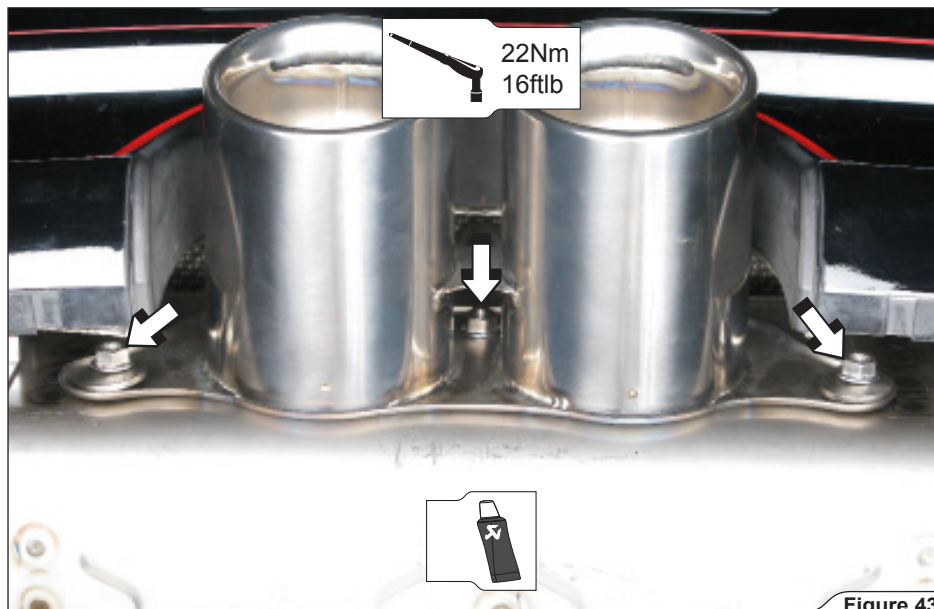

Figure 43
25. **For Slip-On, Sports Cup, Evolution and Evolution-Race:** position the Akrapović tail pipe piece onto the muffler; correctly assemble and hand tighten the three M8 nuts and two centering washers. Center the tail piece in respect to rear bumper and tighten the nuts to a specified torque (**Figure 43**).